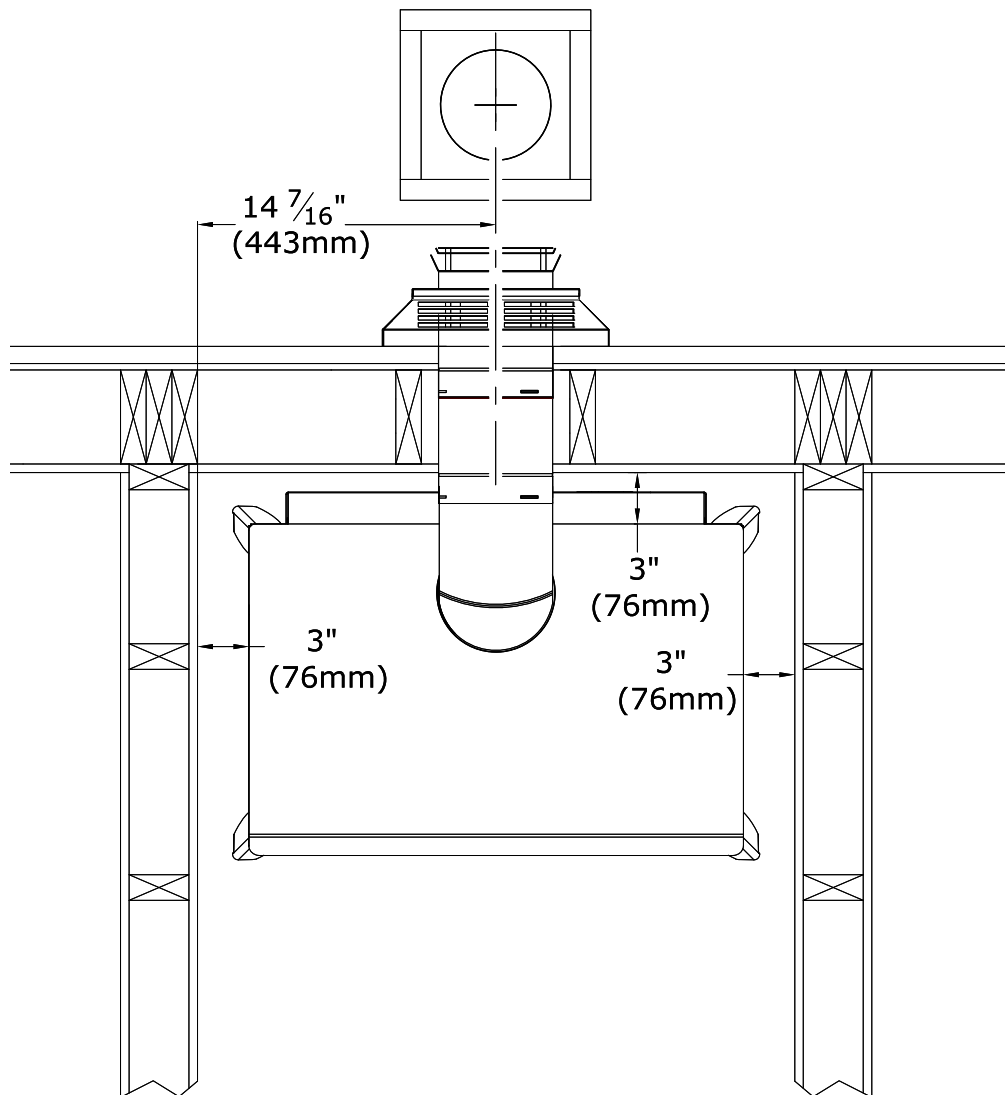

Figure 3.3 - Traditional Alcove Framing
- Shown in Figure 3.3 is a top-down view of a traditional alcove installation.